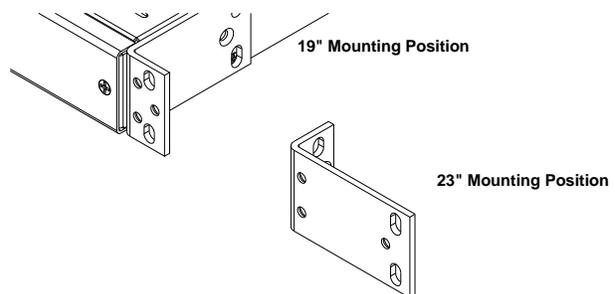

Figure 4.2.1
4.2. Once the panel is unpacked, verify that there are three mounting brackets. The bracket with the vertical slot is used on both 1” and 1-3/4” spacing. There will be two brackets with horizontal slots, these will fit 1” or 1-3/4” spacing. All three brackets are universal for 19” and 23” rack mount spacing (see figure 4.2.1) and can be mounted so the panel can be installed for a flush mounting or 5” offset. Adjust the position and orientation of the correct mounting brackets on the fuse panel, such that it will fit the rack you wish to mount the panel in. Please see drawing 1107-16 on page 6 for mounting bracket configurations.